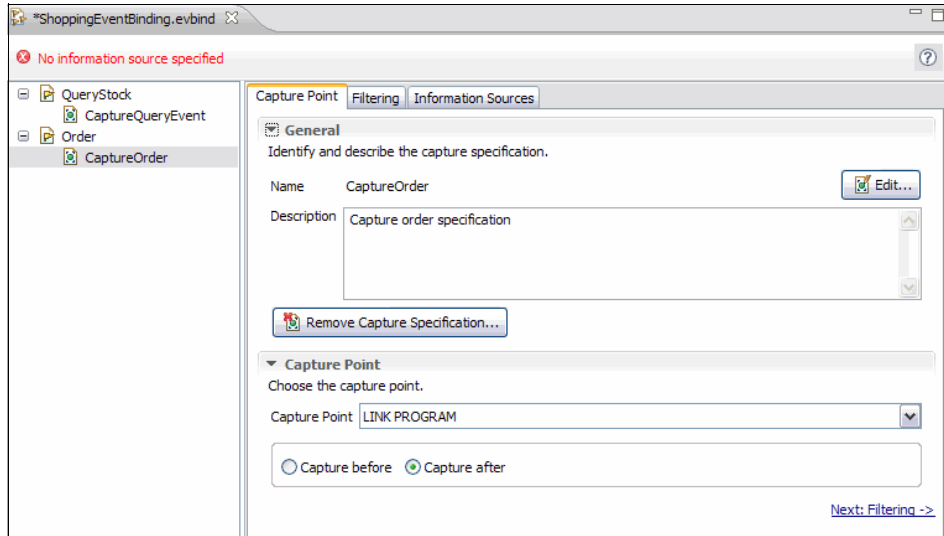

Figure 5-50 Set capture point
5. Click the **CaptureOrder** specification. On the Capture Point panel (Figure 5-50), set the Capture Point to LINK PROGRAM and make sure the **Capture after** radio button is selected. Click **Next Filtering**.